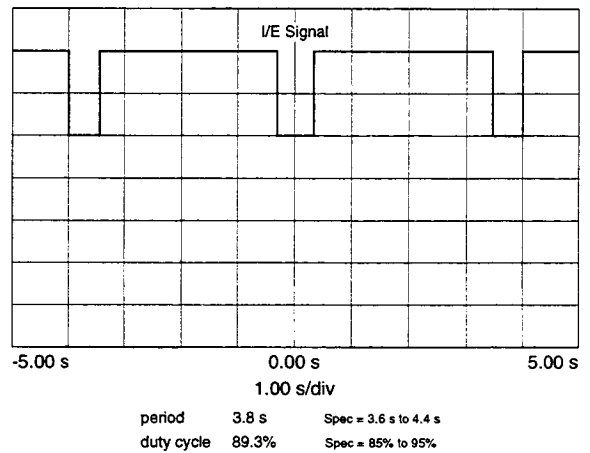

Figure 7-12. Timed Mode, BPM: 16, %IPAP: 90% (Max)
- Step 8 Set % IPAP to 90% (maximum setting) and verify and record I/E state has a duty cycle of approximately 90% ($\pm 5\%$). See Figure 7-12.